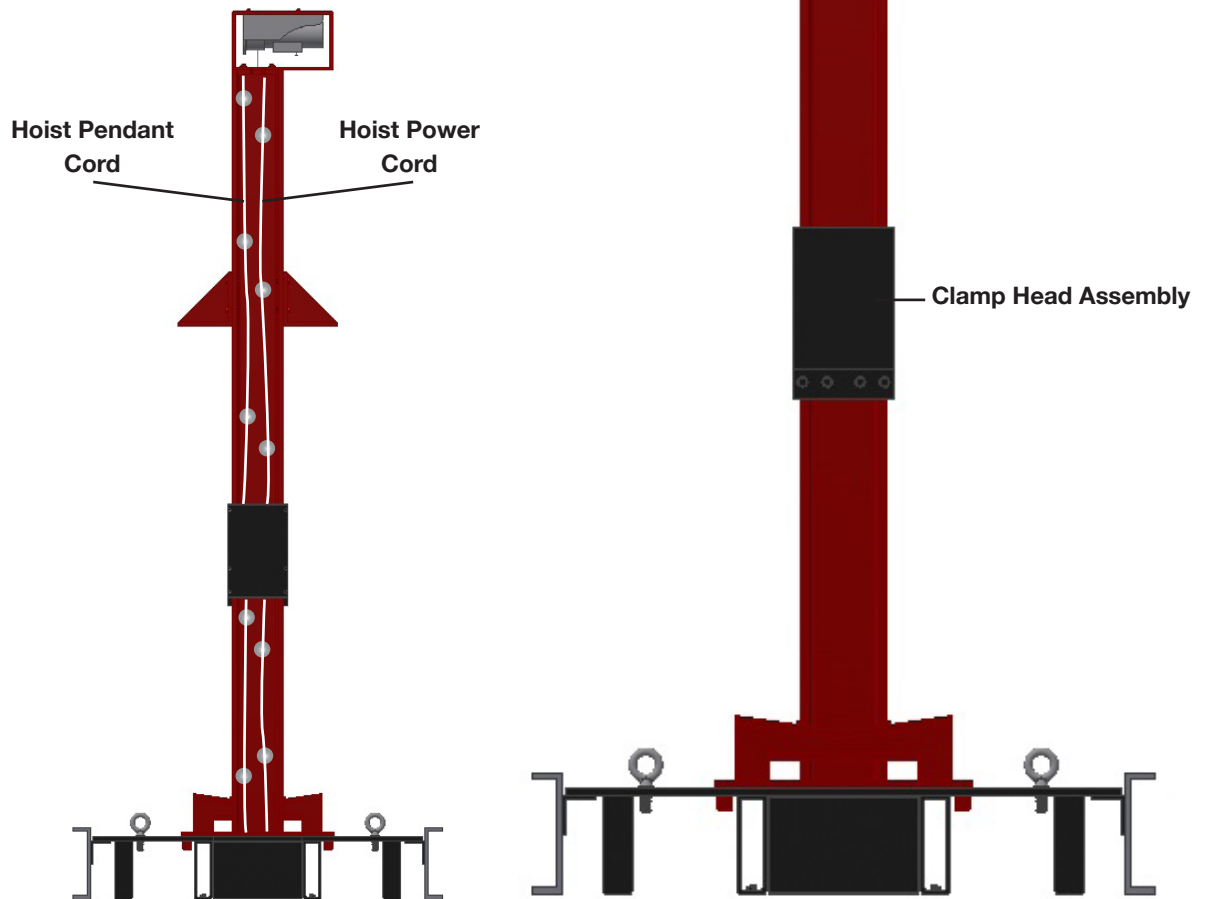

Figure 7
- Now it is necessary to run the electrical lines from the hoist down the rear of the clamp beam. To do this, route the hoist pendant cord and the hoist power cord down the rear channel created by the back of the clamp beam and through the Clamp Head Assembly. Utilize the SCTMC116 Cup Magnets to secure the cords in the rear channel (Figure 7).